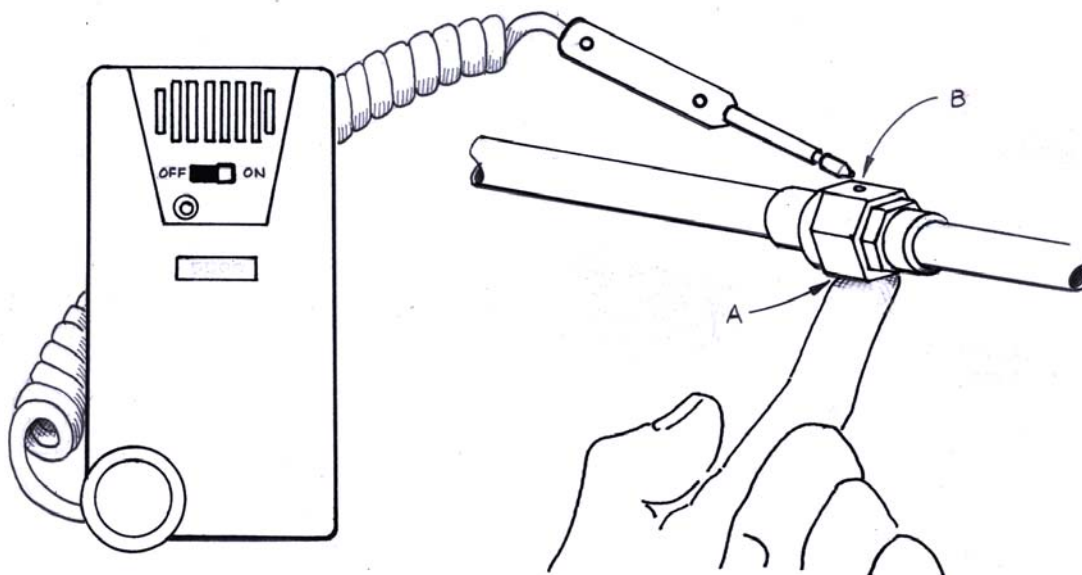

Figure 4-7: Couplings – Leak-checking Method
1. With the halogen leak detector, carefully check each connection that was made. This includes the Parker CPI UltraSeal or Cajon VCR couplings, the EVACUATION VALVE, and any brazed joint that may have been made. The Parker and Cajon couplings have two small access holes on each nut to help find leaks. With a finger cover one hole and put the sensor at the other hole. (See Figure 4-7.)